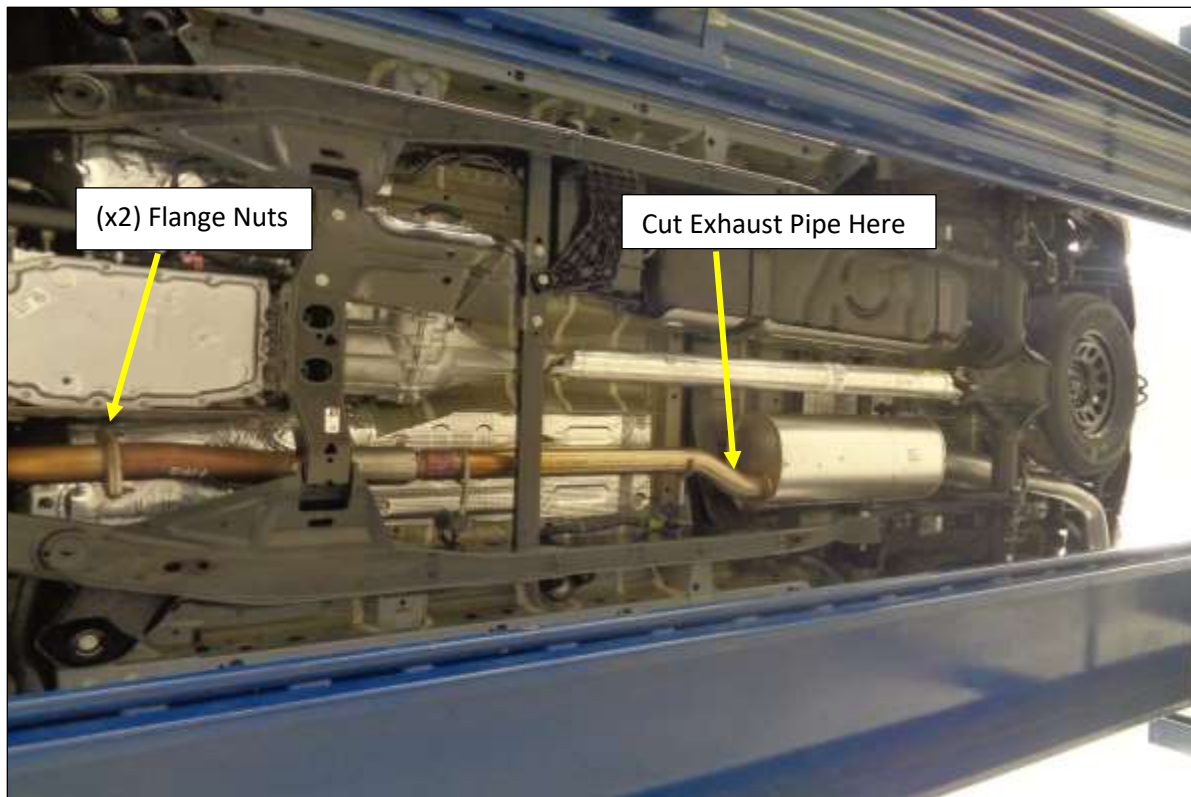

Figure 1
2. Remove the (x2) 15mm nuts at the two-bolt flange connection. **Fig. 1**
3. Cut the exhaust pipe just before the muffler with a reciprocating saw. **Fig. 1**
2. Install the OEM rubber hanger rod isolator with the two frame pins. **Fig. 1**